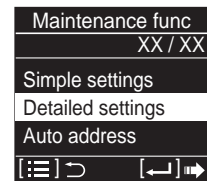

Fig. 4-12-3-3
- (3) Select the “Unit no.” (Fig. 4-12-3-4) by pressing the  or  button.